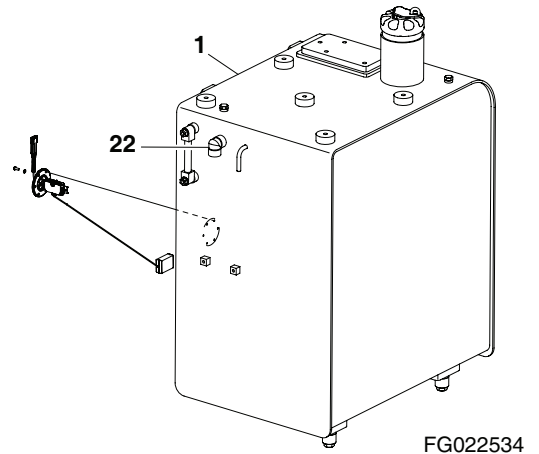

Figure 11
19. If equipped, remove components from fuel filler pump port (22, Figure 11) on side of fuel tank (1).